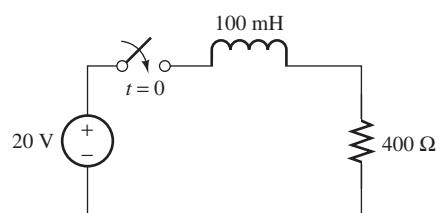

FIGURE P5.25 Circuit for Problem 5.25.
- 5.25** (B)* Find the current flow through resistor at $t(0)$ and $t(\infty)$ for the circuit shown in Figure P5.25. Assume that the switch is closed at $t = 0$.